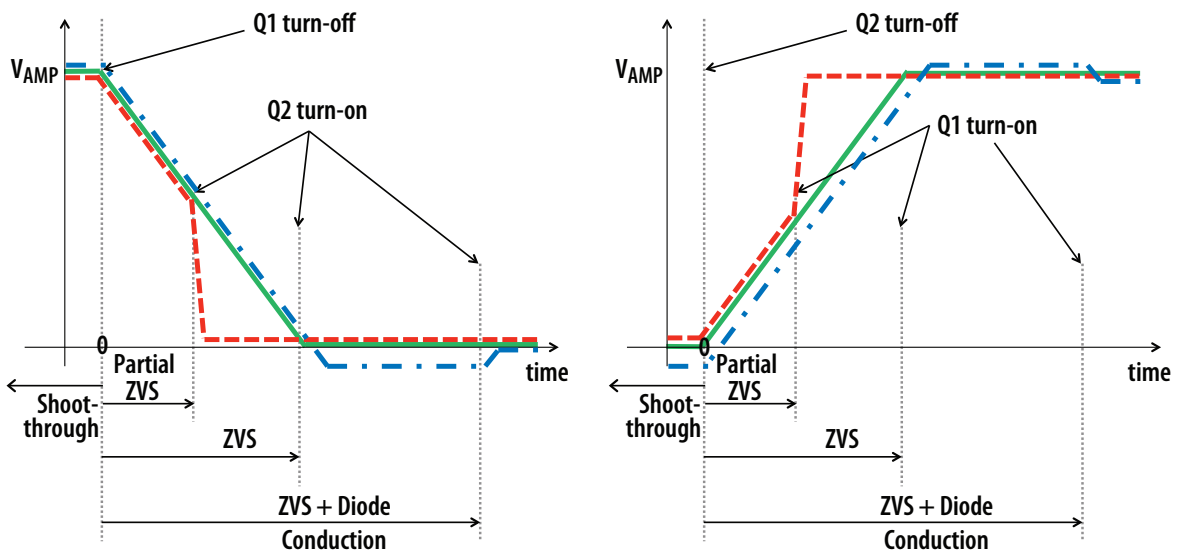

Figure 10: ZVS timing diagrams
Setting the correct time to establish ZVS transitions is critical to achieving high efficiency with the EPC9509 amplifier. This can be done by selecting the values for R71, R72, R77, and R78 or P71, P72, P77, and P78 respectively. This procedure is best performed using a potentiometer installed at the appropriate locations that is used to determine the fixed resistor values. The procedure is the same for both single-ended and differential mode of operation. The timing MUST initially be set WITHOUT the source coil connected to the amplifier. The timing diagrams are given in Figure 10 and should be referenced when following this procedure. Only perform these steps if changes have been made to the board as it is shipped preset. The steps are:
6. While observing the oscilloscope adjust the applicable potentiometers to so achieve the green waveform of Figure 10.